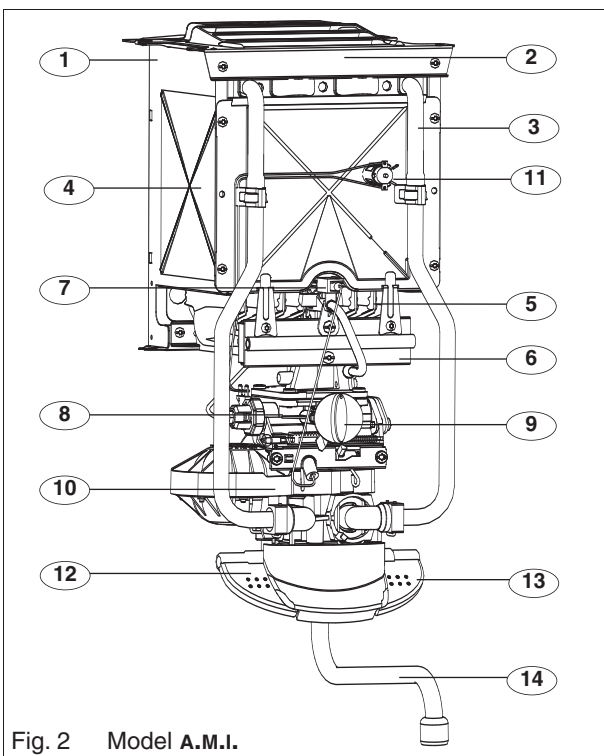

Fig. 2 Model A.M.I.
- remove the gas control knob (9) (fig. 2) pulling it towards you